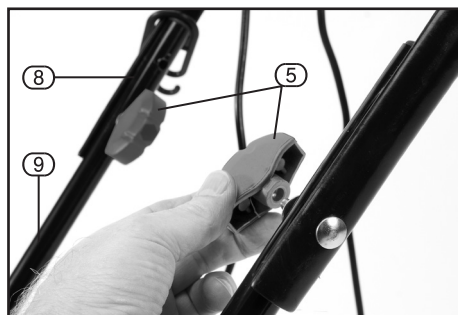

FIG.3
8.3 ATTACH UPPER TO LOWER HANDLES – FIG.3